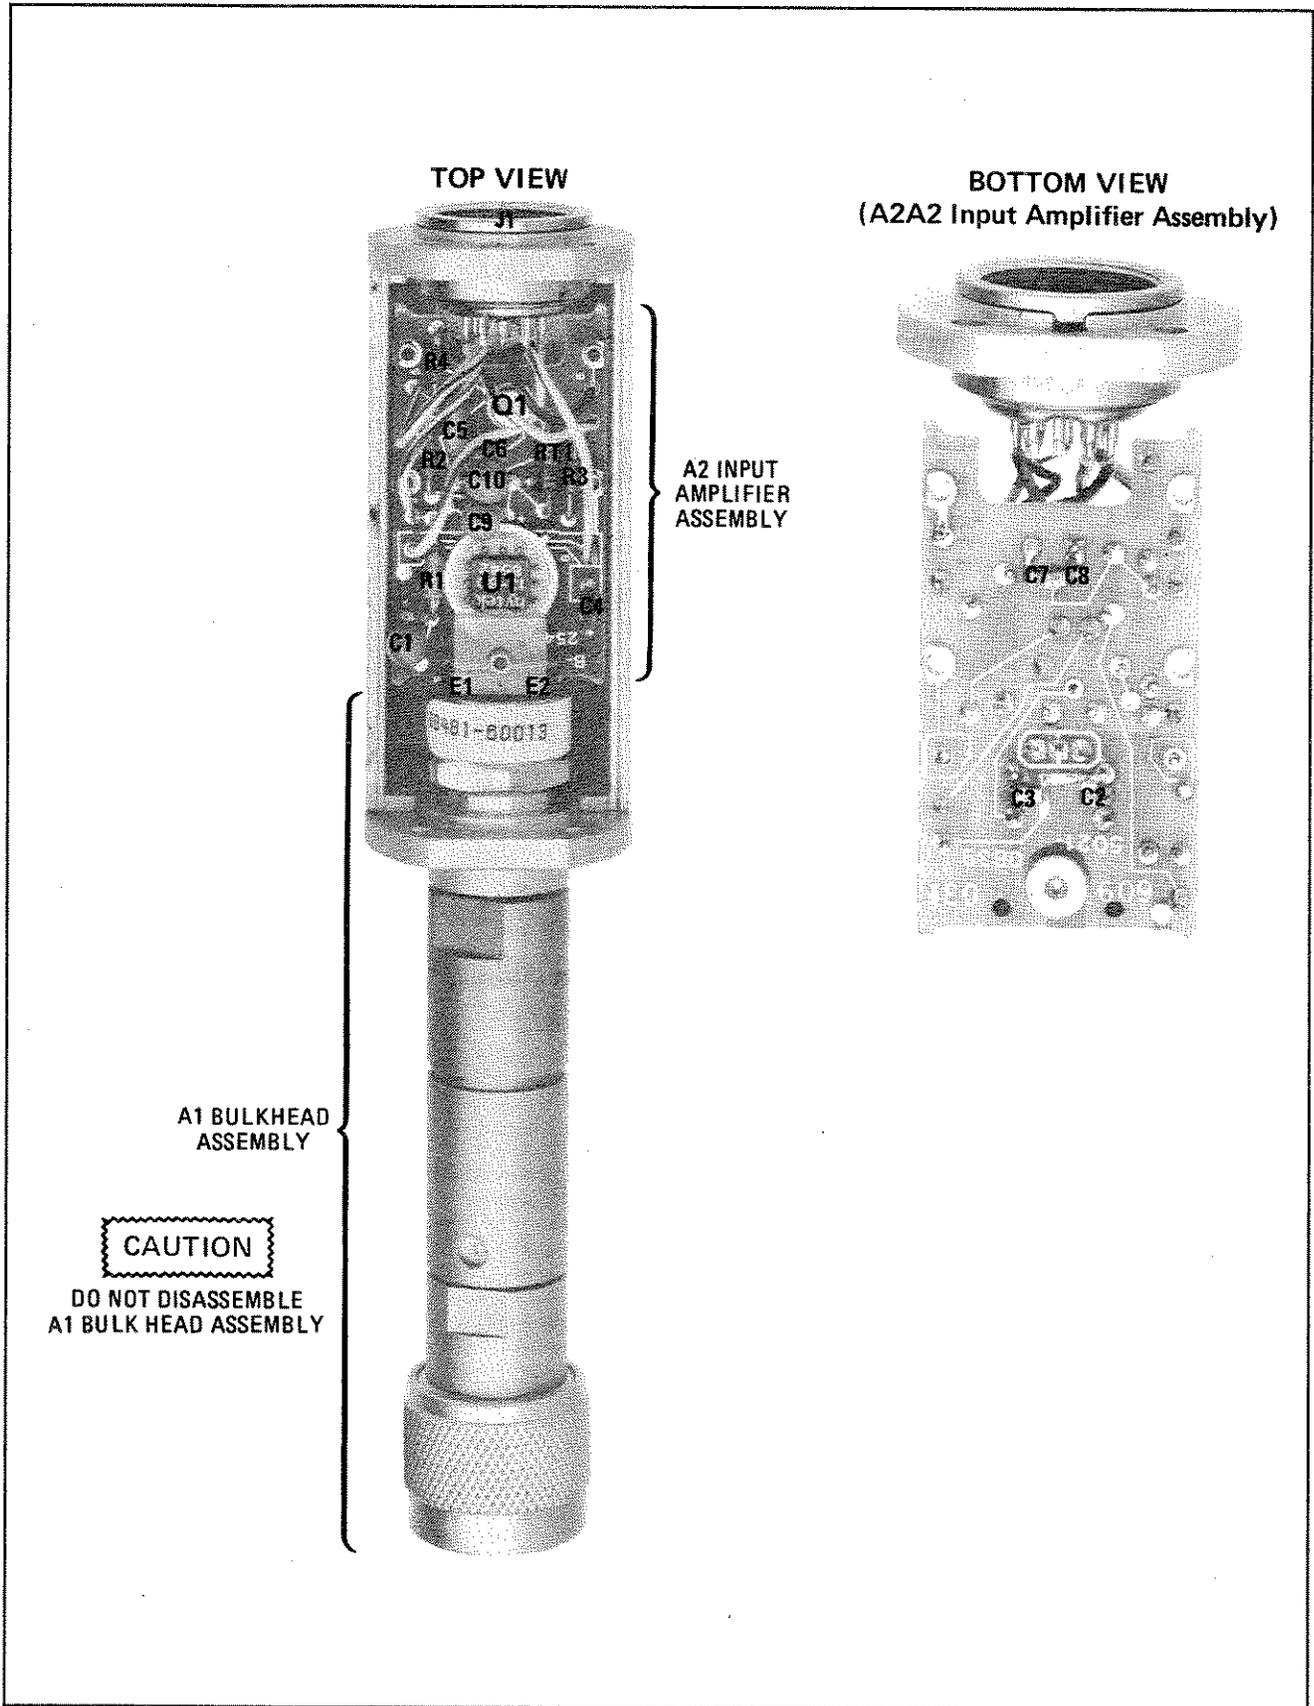

Figure 2. Component and Assembly Locations (1545A through 2609A)
1. Replace Figure 2 Component and Assembly Locations with the Figure 2 in this section.
1. Replace Figure 2 as described above.